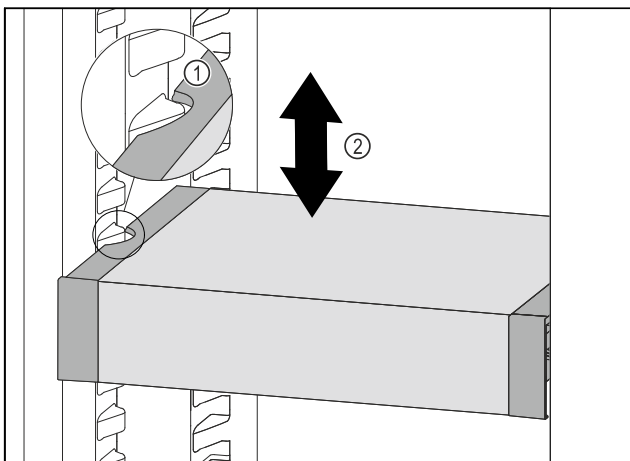

Fig. 58
- ▶ Pull VarioSafe forwards until the recesses in the side of the VarioSafe are at the level of the support rib in the refrigerator compartment. Fig. 58 (1)
- ▶ Move VarioSafe up or down in the refrigerator compartment until the desired height is reached. Fig. 58 (2)